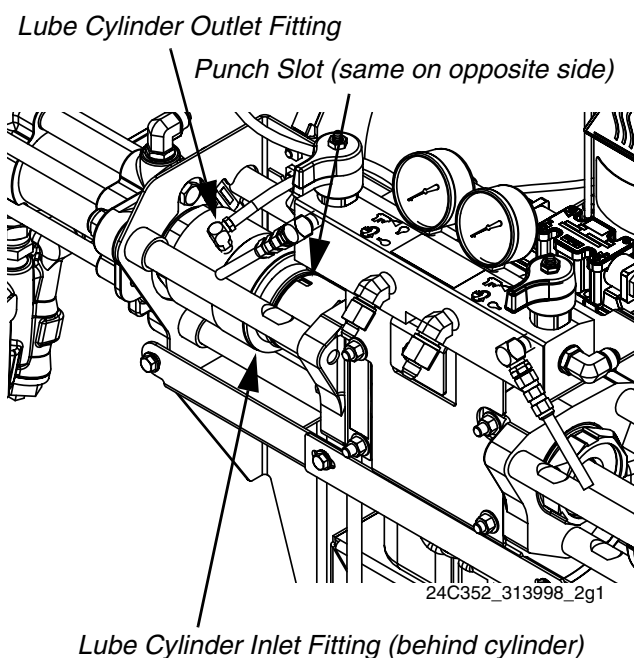

FIG. 1: Lube Cylinder
6. Unthread smaller cylinder from hydraulic driver and slide inside larger cylinder. Use punch slots in lube cylinder to aid rotation if necessary. See FIG. 1.